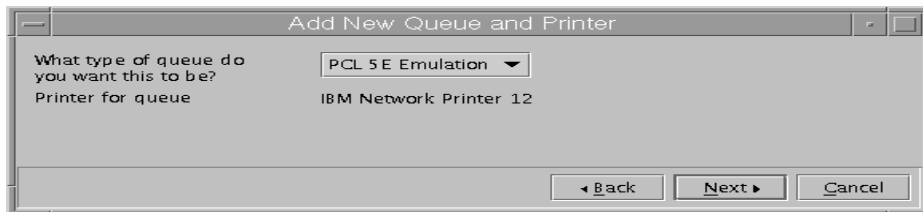

Figure 32. Selecting a type of the queue
11. You need to choose the type of queue you want; in this example, we want IBM 4312 printer support PCL queue and PostScript queue. Select **PCL 5E Emulation** and click **Next**, as shown in Figure 32.